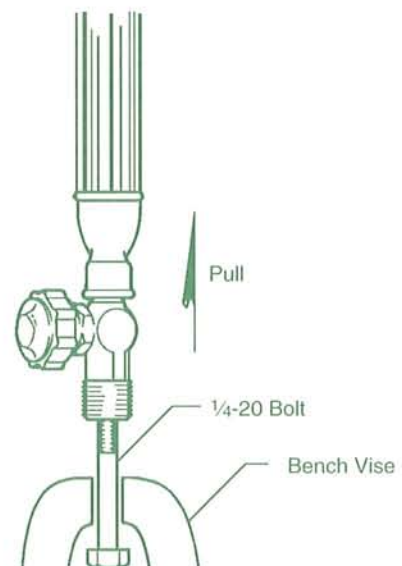

Fig. 1 - Removing the Internal Check Valves
2. Place the shank of the bolt in the Bench Vise with the bolt head shouldered against the vise jaws (see Fig. 1, page 2). **DO NOT** tighten the Bench Vise.